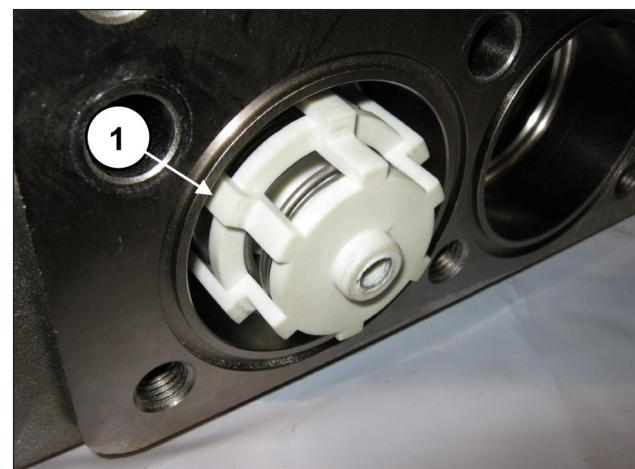

Fig. 152
The complete valve unit must be driven fully home and should appear as shown in pos. ①, Fig. 152.